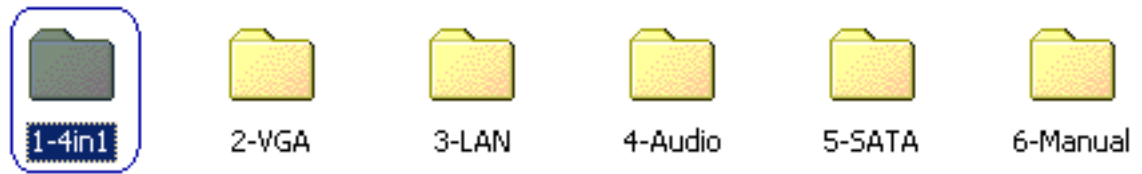

Figure 6-1: Access the 1-4in1 Folder
Step 2: Open the “**PCISA-MARK**” folder. Open the “**1-4in1**” subfolder. (See **Figure 6-1**)